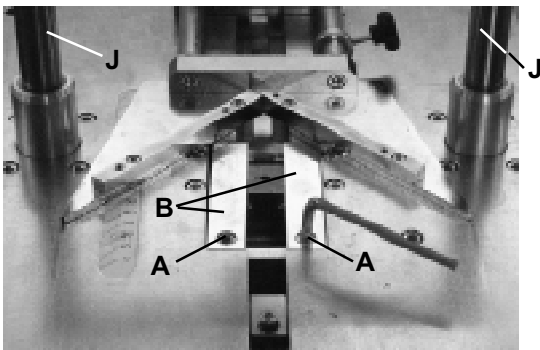

Figure 14
3. Use light oil on a cloth to wipe the **Vertical Shafts (J)**, Figure 14, which operate the **Upper Clamp**.
- b. Remove two screws (**A**) and set the **Cover Plates (B)** aside. (Figure 14)